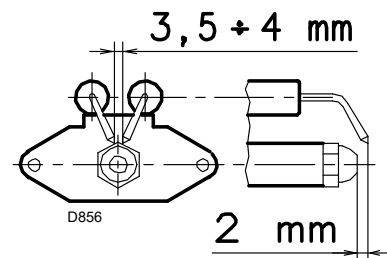

Fig. 15
For boilers with a front flue gas passes 13)(Fig. 15 on page 19) or flame inversion chamber, a protection device in refractory material 11) must be inserted between the boiler fettling 12) and the blast tube 10).
- remove the screw 1)(Fig. 15);
Position the electrodes according to the dimensions shown in Fig. 15.